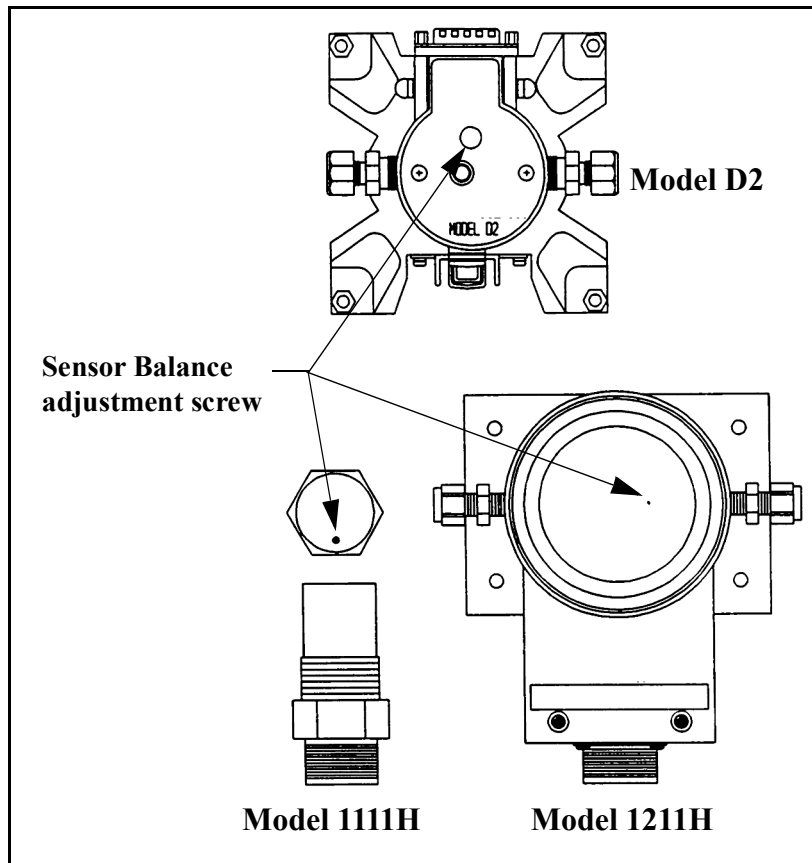

Figure 24: Balance Adjustment Screw Locations
5. If the square is not in the center of the balance bar, use the screw or hex driver to adjust the optical bias screw (shown in Figure 24 below) on the sensor until the marker is in the center of the bar. You are performing a coarse balance adjustment.